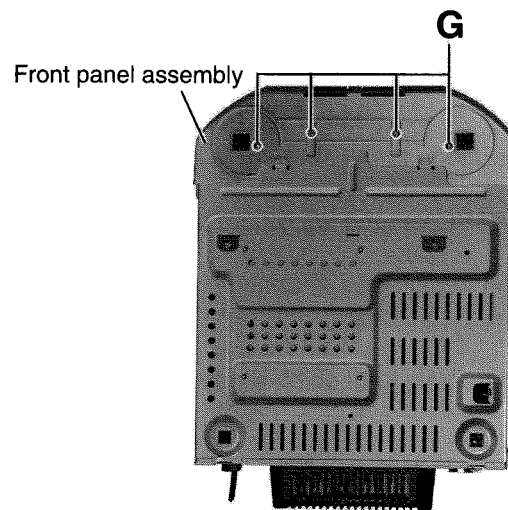

Fig.7
■ Removing the front panel assembly (See Fig.7 to 9)